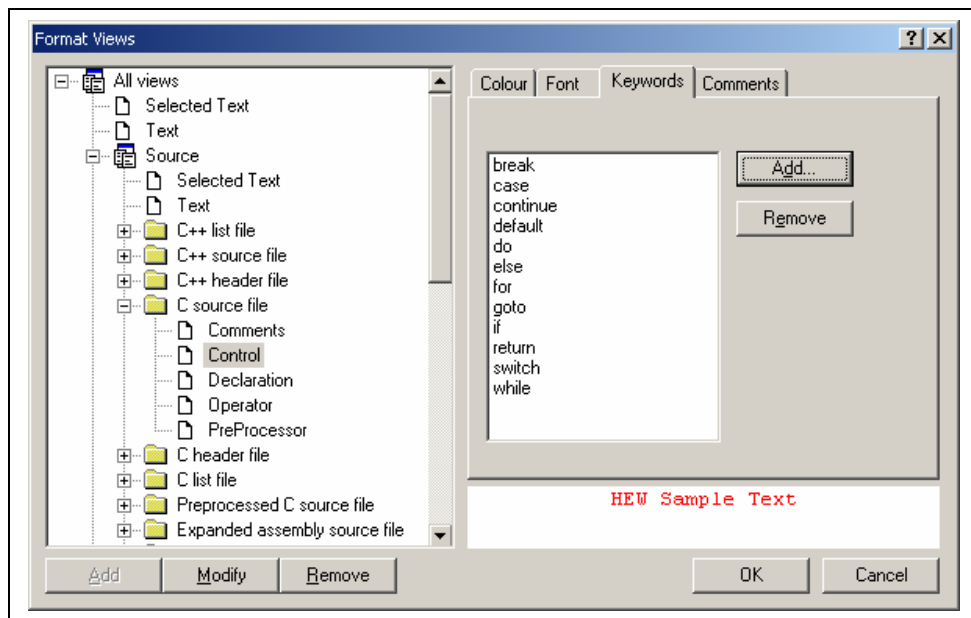

Figure 4.12: Format Views Dialog Keywords Tab
3. Select the "Keywords" tab (figure 4.12).